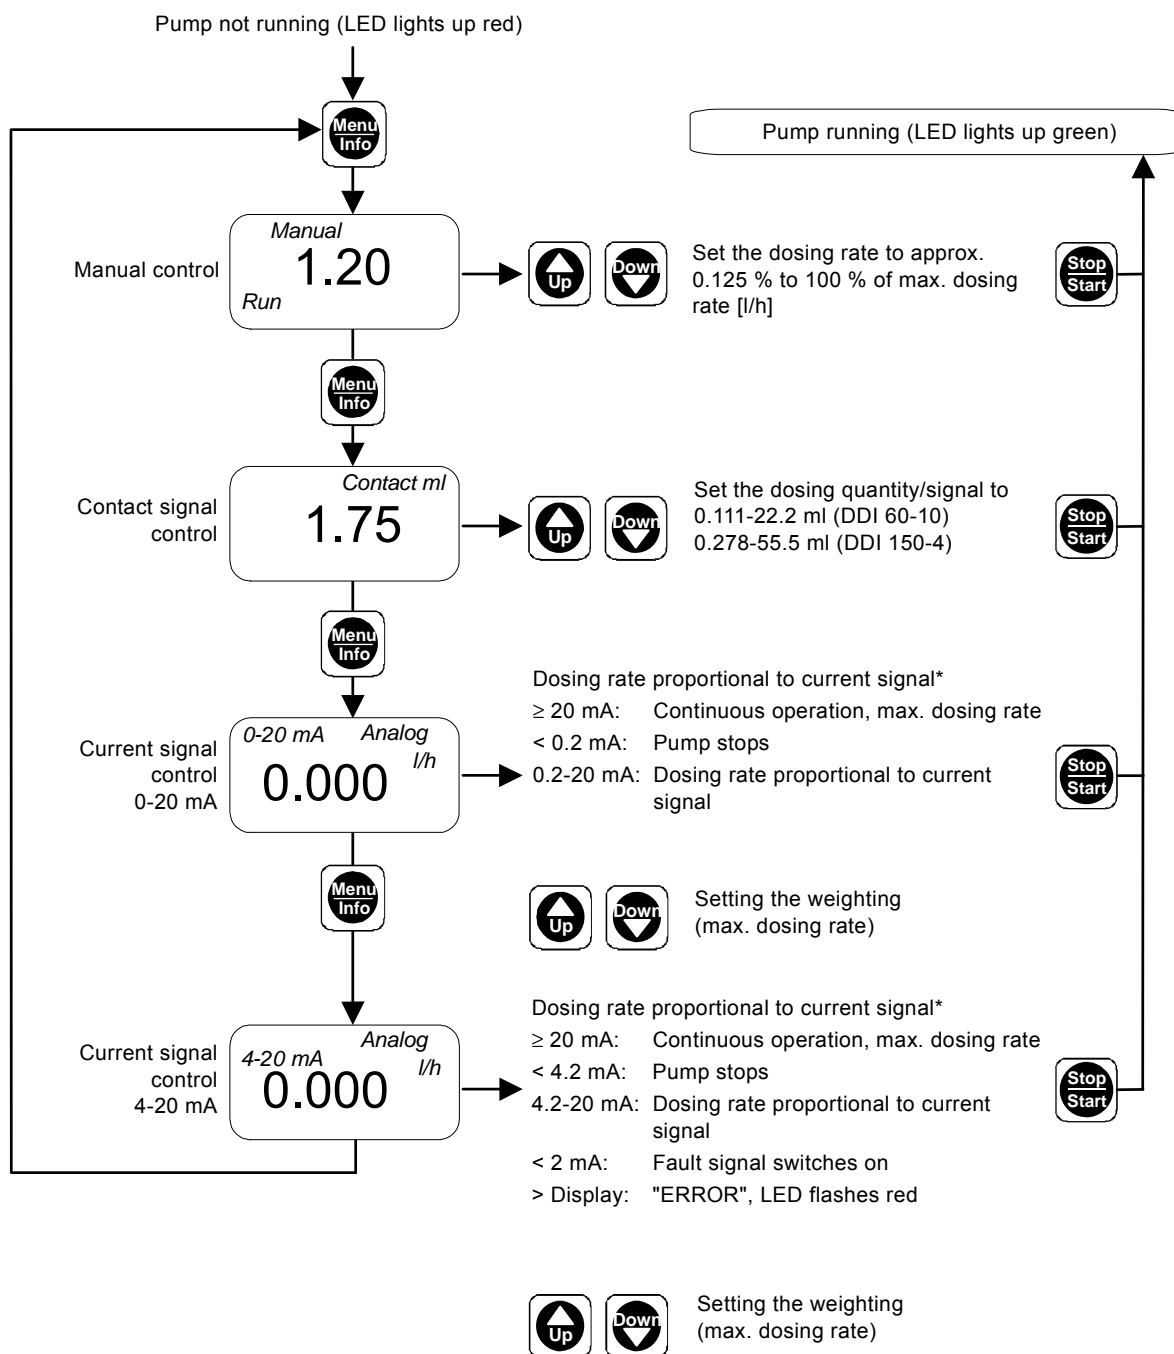

Fig. 24 First function level
3. Use the "Up" and "Down" buttons to modify the settings in the relevant menu as shown in fig. 24.